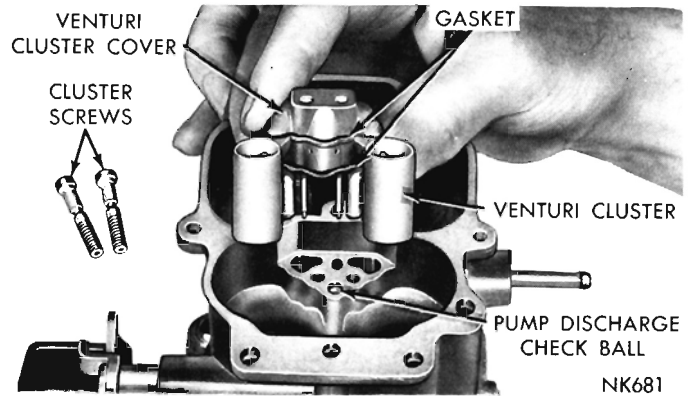

Fig. 5—Removing or Installing Venturi Cluster
(13) Remove the venturi cluster screws, then lift the venturi cluster and gaskets up and away from main body, as shown in (Fig. 5). Discard the gaskets.
(5) Install new gaskets on venturi cluster, then install in position in the main body. Refer to (Fig. 5). Install the cluster screws and tighten securely.